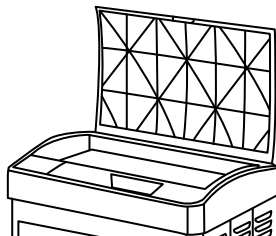

Figure 1
- Open the cover plate (see Figure 1)